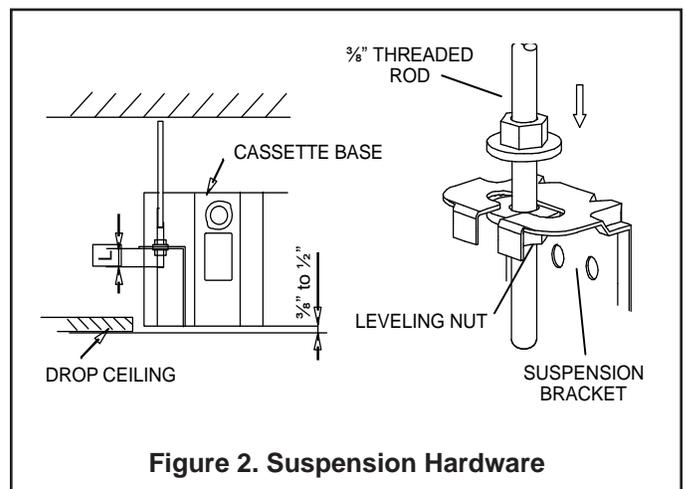

Figure 2. Suspension Hardware
4. **Make sure that the structural ceiling is able to support the weight of the cassette unit. It may be necessary to add extra support.** If the structural ceiling is constructed of concrete, install anchors to accept four $\frac{3}{8}$ " threaded rods to suspend the cassette base. If the structural ceiling includes wooden joists, use angle iron or a Unistrut channel fixed securely in place to accept the $\frac{3}{8}$ " threaded rods. **NOTE - Threaded rod (requirement of Lennox warranty program) is the ONLY acceptable method of suspending the unit; do not use chains or straps.** See Figure 2.